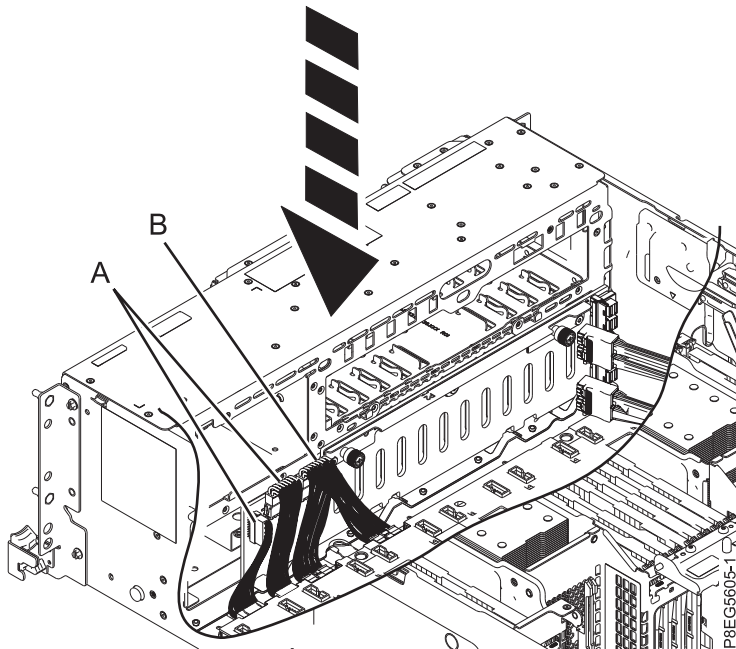

Figure 52. Reconnecting the power, signal, and control panel cables
36. Reconnect the signal and control panel cables (**A**), and the power Y cable (**B**), to the disk drive backplane and the system backplane, as shown in Figure 52 on page 49.